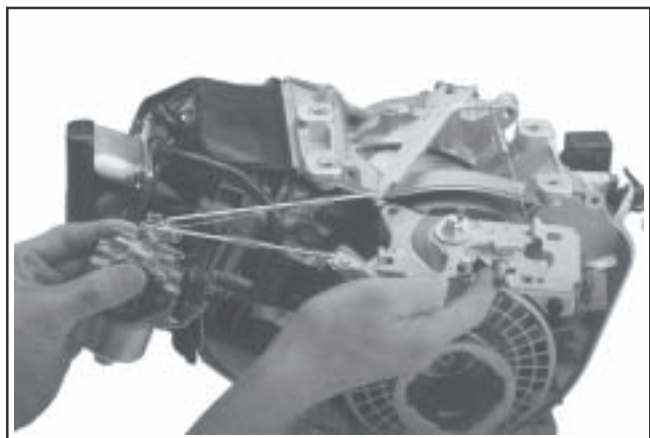

Figure 9-15. Removing Control Bracket on CS8.5 (spec. 95xxxx).
3. On CS8.5 (spec. 95xxxx) remove the single hex flange screw securing the throttle control bracket to the crankcase. See Figure 9-15.